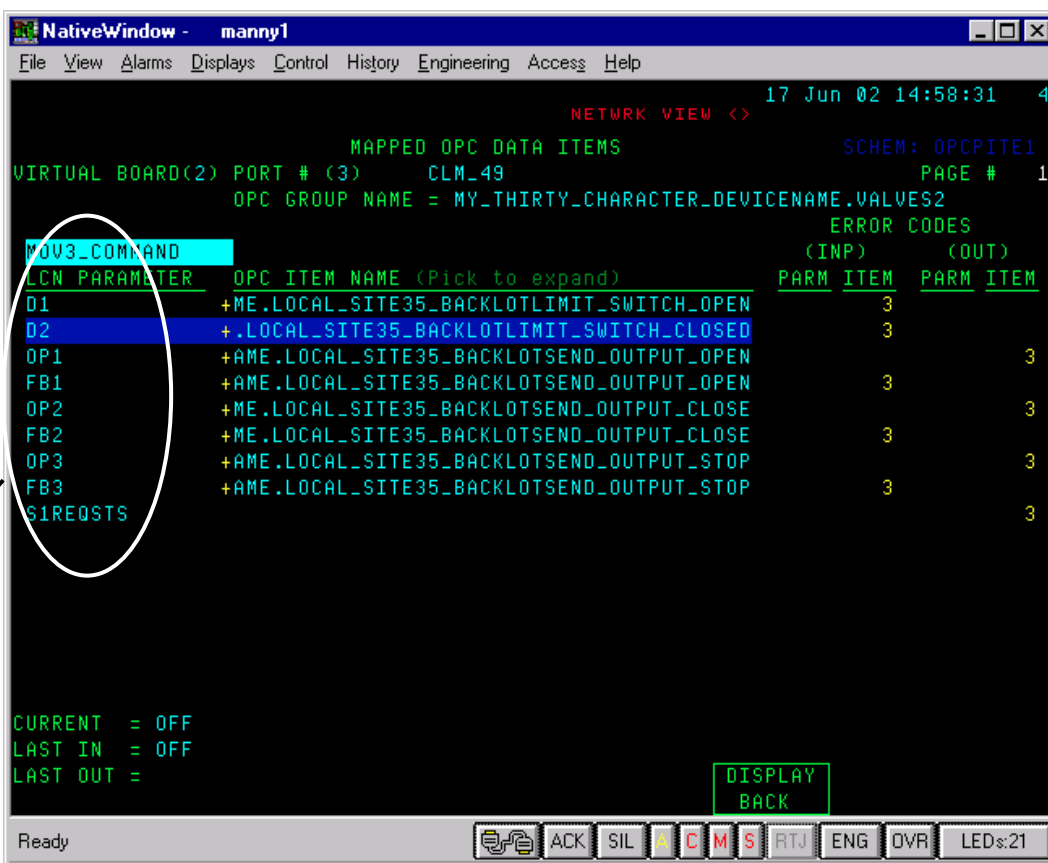

Figure 7.7-2 Mapped Data Item Display – Item Collection
7.7.2.2	At the bottom of the screen, the current data for the image point parameter, Network Memory entry value, and last output value will be displayed. The values update every 4 seconds. See Figure 7.7-2 below.